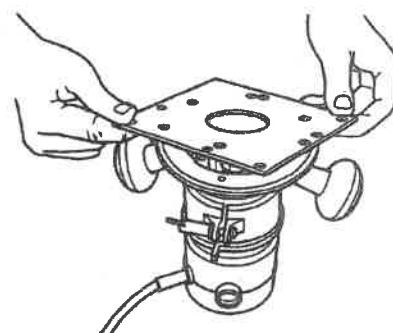

Fig. A-17
- b. Center the base plate's hole of your router with the mounting plate hole. It must be accurately centered in order to get a uniform clearing distance for certain bits, and to achieve proper alignment (detailed in the Alignment section.) Also, turn the mounting plate so that your router's handles are not in line with any of the four corner holes of the mounting plate. See Fig. A-17.